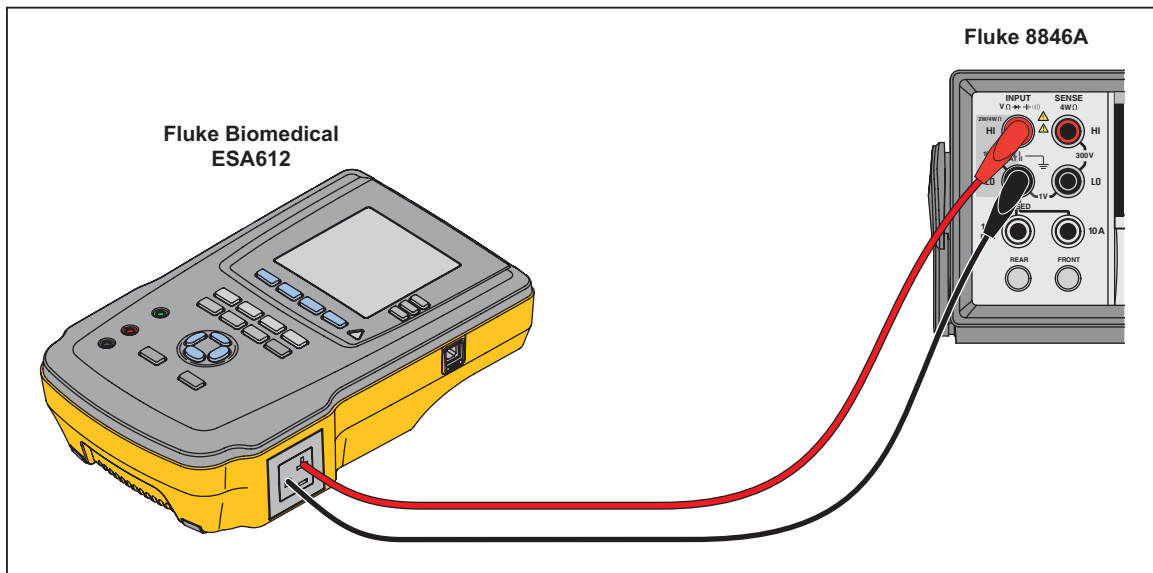

Figure 3-6. Insulation Resistance Verification Connections
1. Connect the EO ground to the Input (-) of the DMM and the EO Neutral to the Input (+) as shown in Figure 3-6. Set the DMM for 1000 V ac mode.